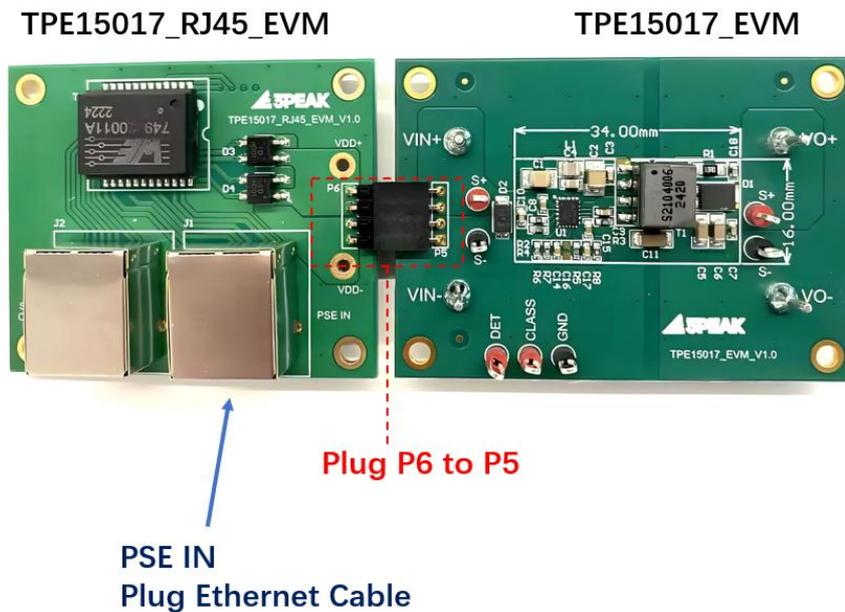

Fig.5 Ethernet Cable Supply Set-up
1. Figure 5 shows the connection method using an Ethernet cable supply set-up.